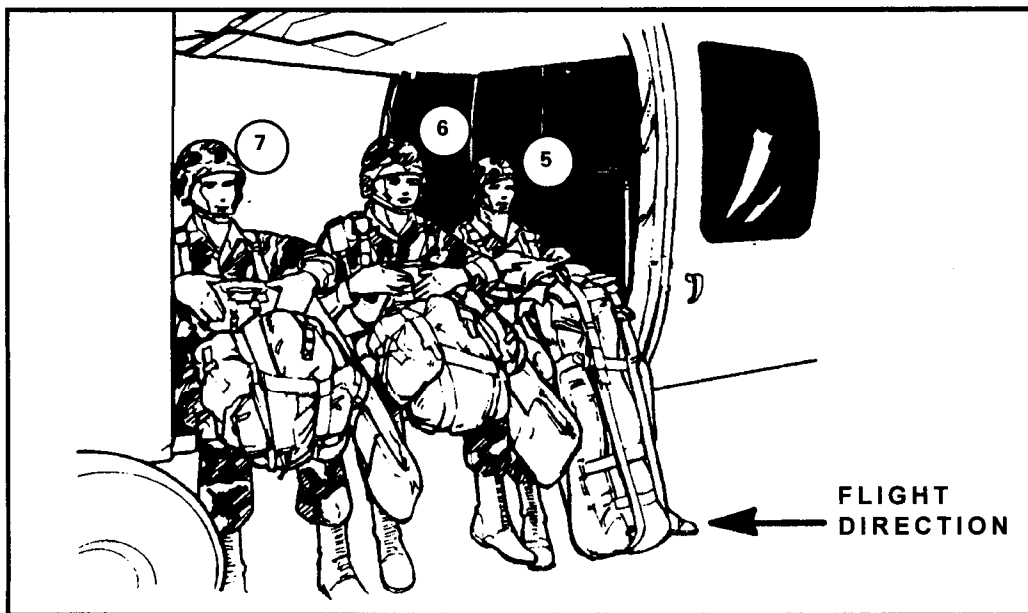

Figure 17-14. Parachutists (left door) with safety belt secured.
(2) Numbers 5 and 7 pass the running ends of their safety belt to number 6, who fastens the belt and removes excess slack (Figure 17-14).